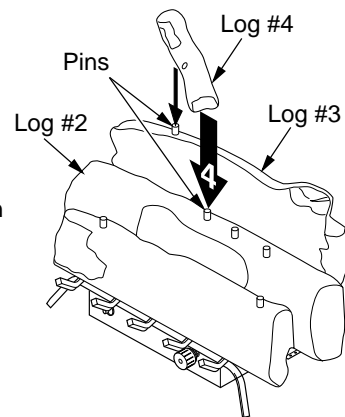

Figure 30 - Installing Crossover Log (#4) (CCL3930NTA Shown)
4. Locate holes on the bottom of crossover log (#4). Slide front hole onto the left pin (CCL3924NT or CCL3930NTA) or middle pin (CCL3018NT or CCL3018N) on the middle log (#2) and the pin on the back log (#3). See Figure 30 for placement.